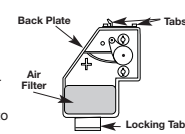

Fig. 27
6. Replace the filter (Fig. 27).
8. Swing the cover down until the tab on the air filter backplate snaps into place in the slot on the air filter cover (Fig. 27).